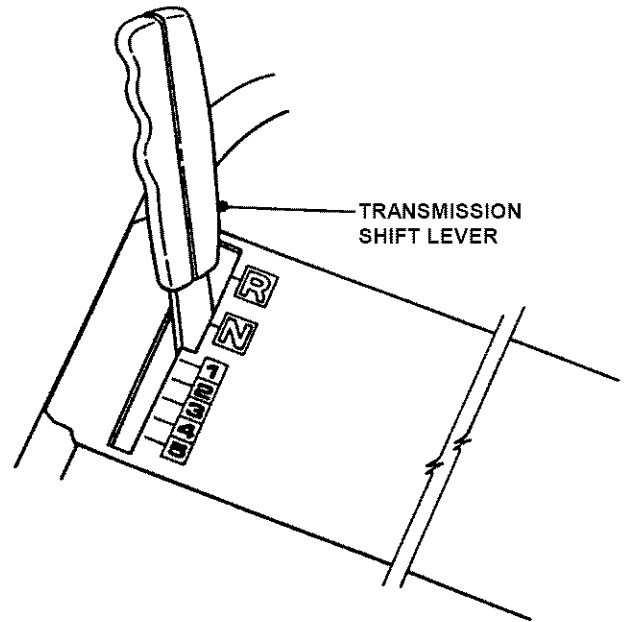

FIGURE 3.4
3. Place Transmission Shift Lever in **NEUTRAL(N)** position. See Figure 3.4.
9. Place Transmission Shift Lever in No. 1 position (first gear). See Figure 3.4.